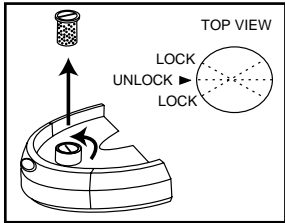

FIGURE 5 - Filter
2. Remove filter by turning it toward arrow and lifting up, (see Figure 5).
4. Remove Filter from water tank by turning Filter toward arrow and lifting up (see Figure 5). Set Filter aside.